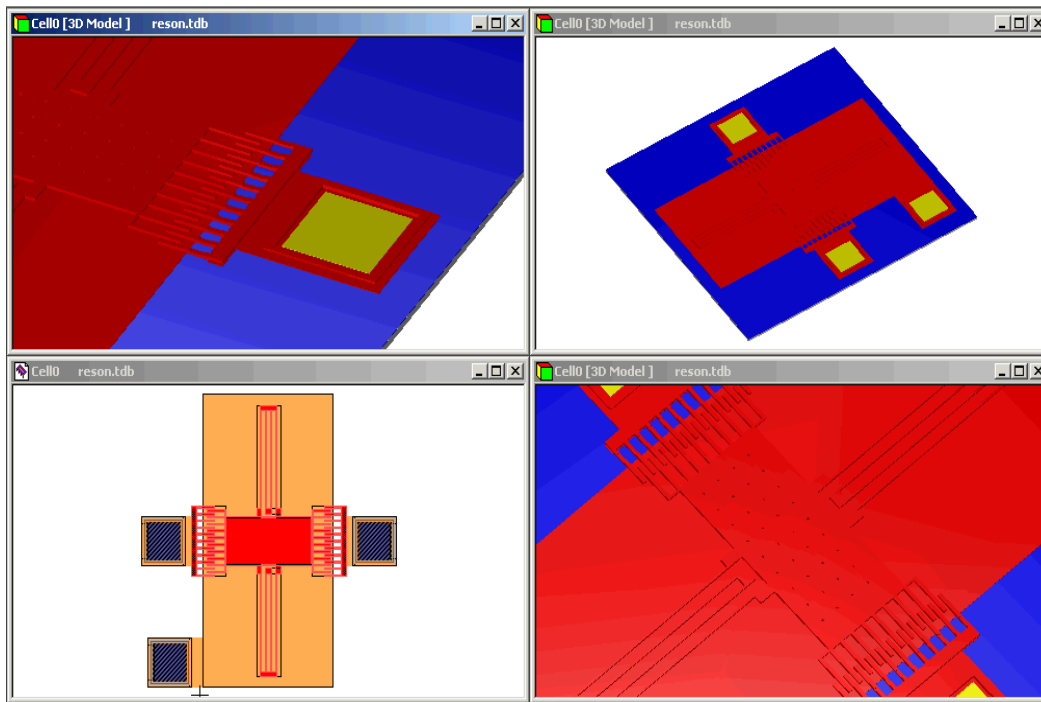

Figure 24: Tiling the windows displaying the 3D generation steps
- ☑ Select **Window > Tile** to tile the windows. All open windows will be resized so that they fit without overlapping (Figure 24). Each 3D model view may be manipulated independently.